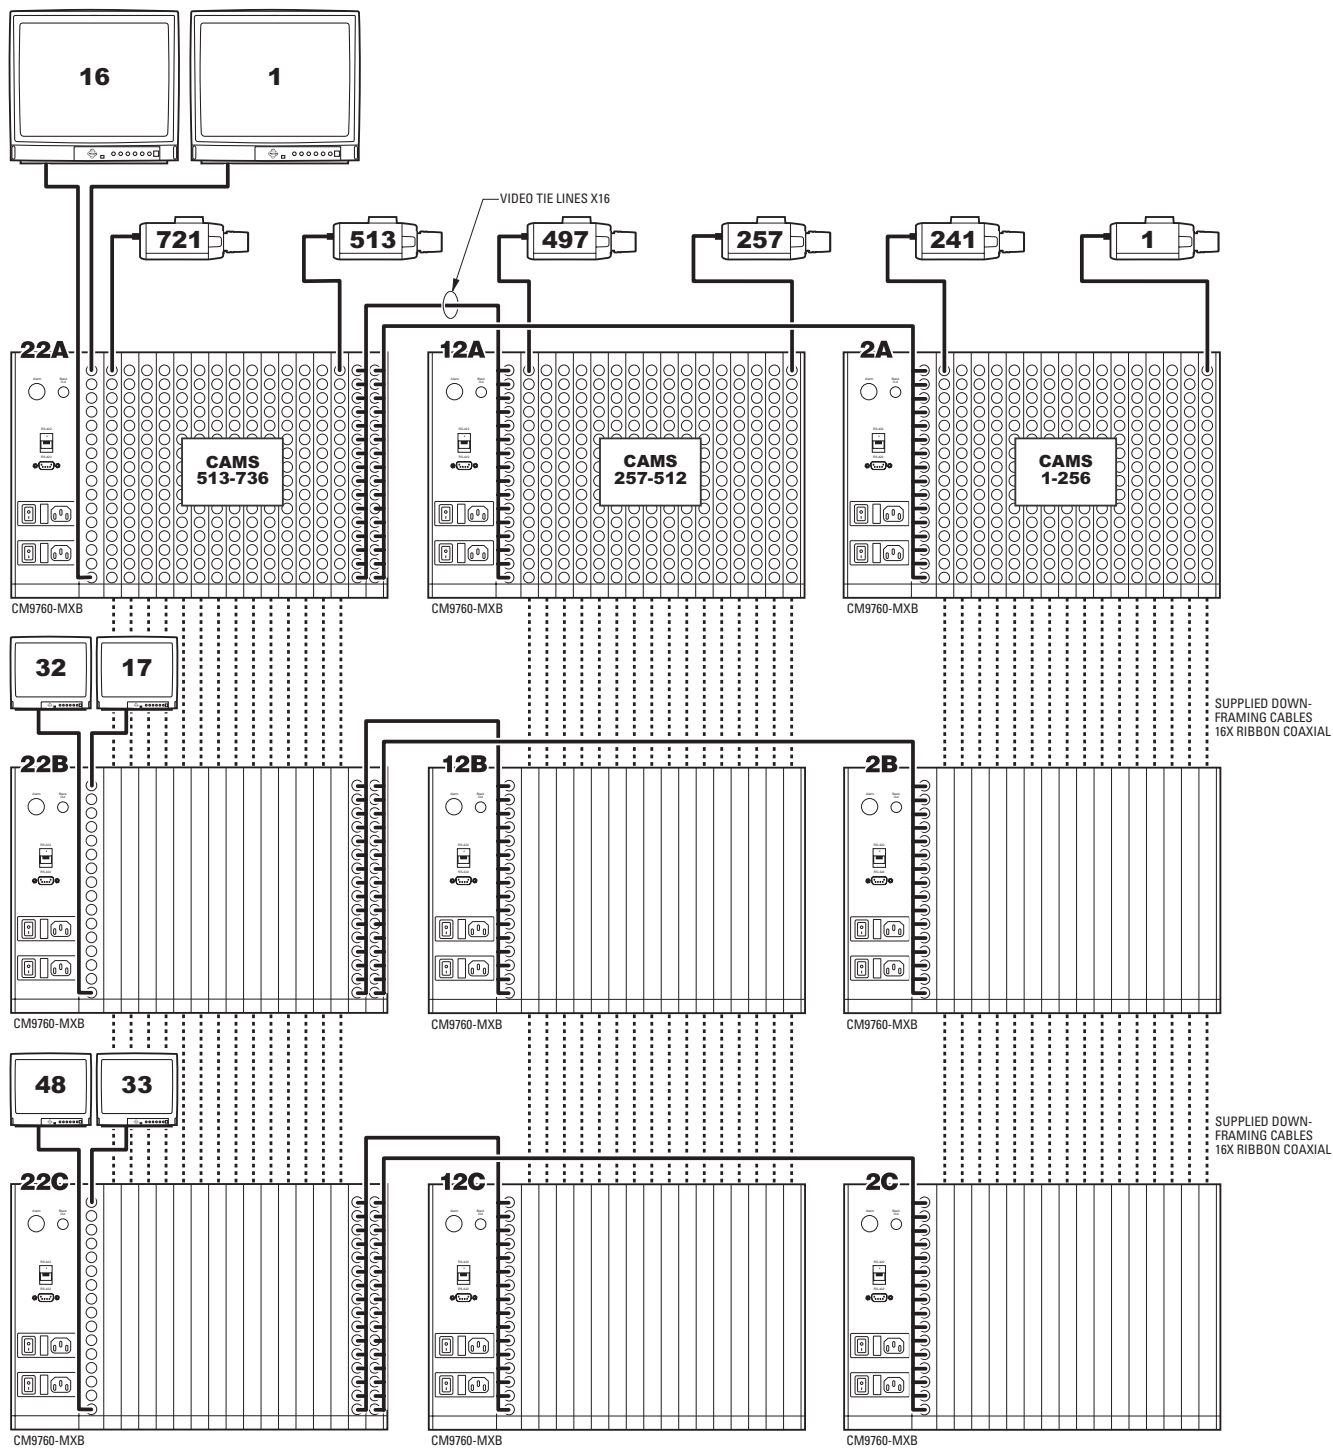

Figure 75. Sideframing and Downframing: 736 x 48 Configuration
- 736 x 48 (refer to Figure 75)